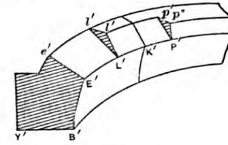

Fig. 65.—Bed Formed of Several Conic
*Second System of Construction for the Beds.*—If the lengths of the axes  $O A$  and  $O B$  of the springing-line differ very much, then the cone of center  $S'$  would still give us very oblique joints at the extremities of the axes. To avoid this, masons form the one bed of several conic surfaces, as shown in Fig. 65. The centers for the several portions of the bed are found by drawing perpendiculars to the tangents  $Z' E'$ ,  $Z' P_1$ ,  $Z' G_1$  (Fig. 62).